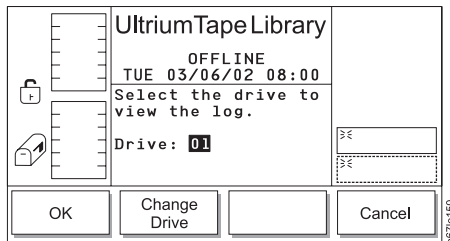

Figure 4-50. Select Drive Dialog
3. Press the button below the **Drive Log** softkey. The Select Drive Dialog displays (see Figure 4-50).